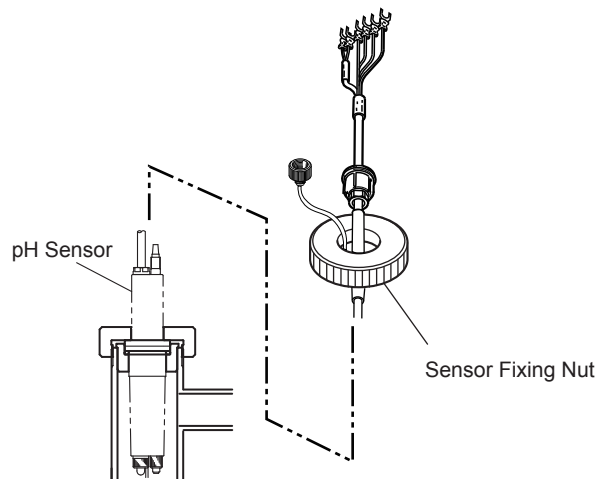

Figure 2.10 Preparation for Sensor Cable Connection
- (5) Connect the pH sensor to its holder. Remove the protective cap from the sensor. Also remove the protective foam piece (for shipping - this is not necessary after installing the sensor) from the holder. Be sure that the liquid junction and glass electrode are mounted properly. Insert the sensor tip into the holder and tighten the sensor fixing nut securely (see Figure 2.10).